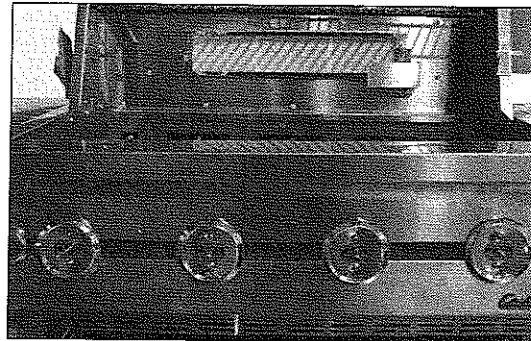

Fig 10
10. Remove all the knobs, set the knobs aside. (See Fig. 10)